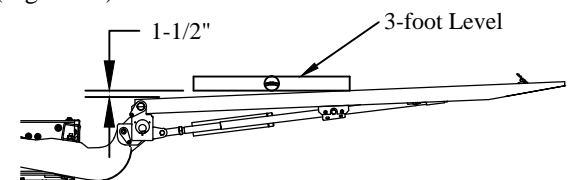

Figure 16: Platform position.
6. **Adjust** the passenger side support arm so that the platform is 1-1/2" from level over a 3-foot length (Figure 16). Adjustment similar to folding cylinder.